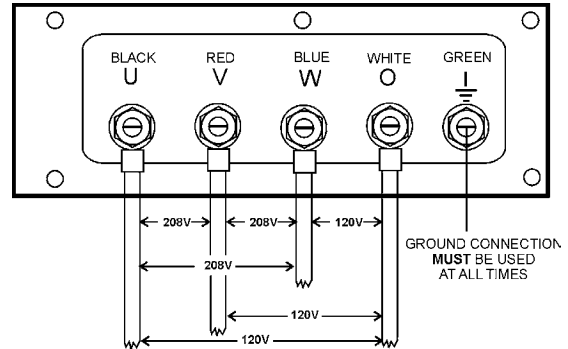

Figure 22. UVWO Terminal Lugs 3Ø-208/1Ø-120V Connections
2. Connect the load wires to the UVWO terminals as shown in Figure 22.